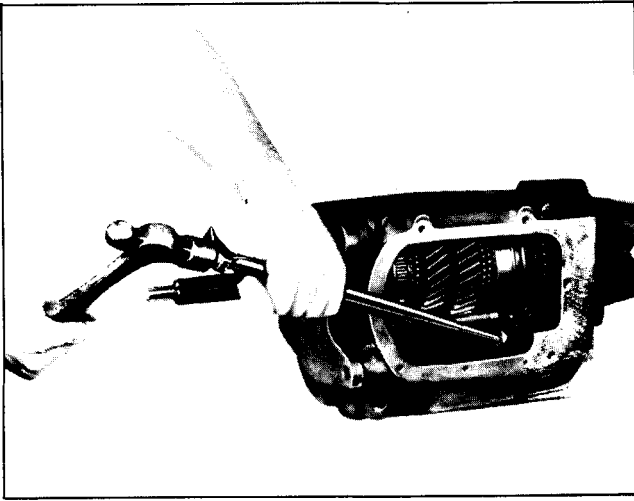

Fig. 7B-9 Removing Reverse Idler Shaft
5. Using snap ring pliers, expand snap ring at front of extension housing that retains mainshaft rear bearing and remove extension housing from mainshaft assembly (Fig. 7B-10).